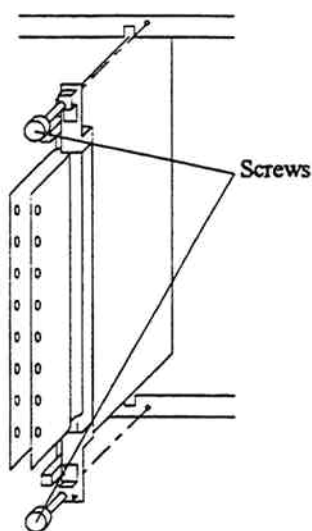

Fig. 3.3.12.3-1 Insertion of PCB
- a. Insert the PCBs to the correct locations in the Logic Box. Refer to Table 3.3.12.3-1 and Fig. 3.3.12.3-1.
a. Attach the nameplate referring to Fig. 3.3.12.3-2.